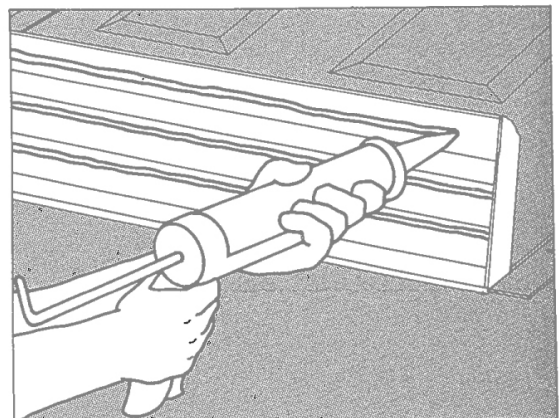

Figure 2E-1
2. Use the caulking gun and caulk to run beads of caulk along the underside of the metal threshold on your replacement door (Figure 2E-1).